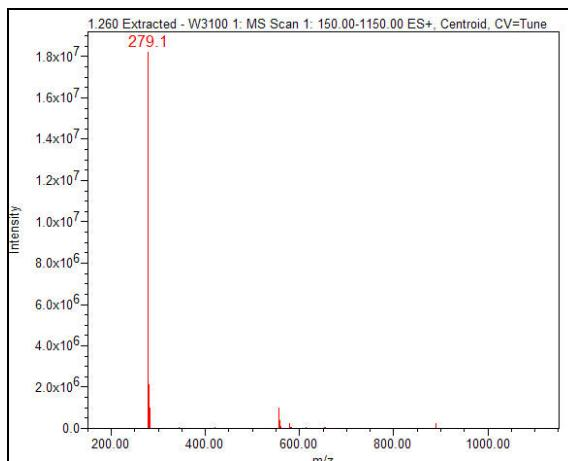

Figure 162 - Spectrum Review field
2. Set a time offset of **0.072**, and then click **OK** to display an extracted MS spectrum in the Spectrum Review field, see Figure 162.